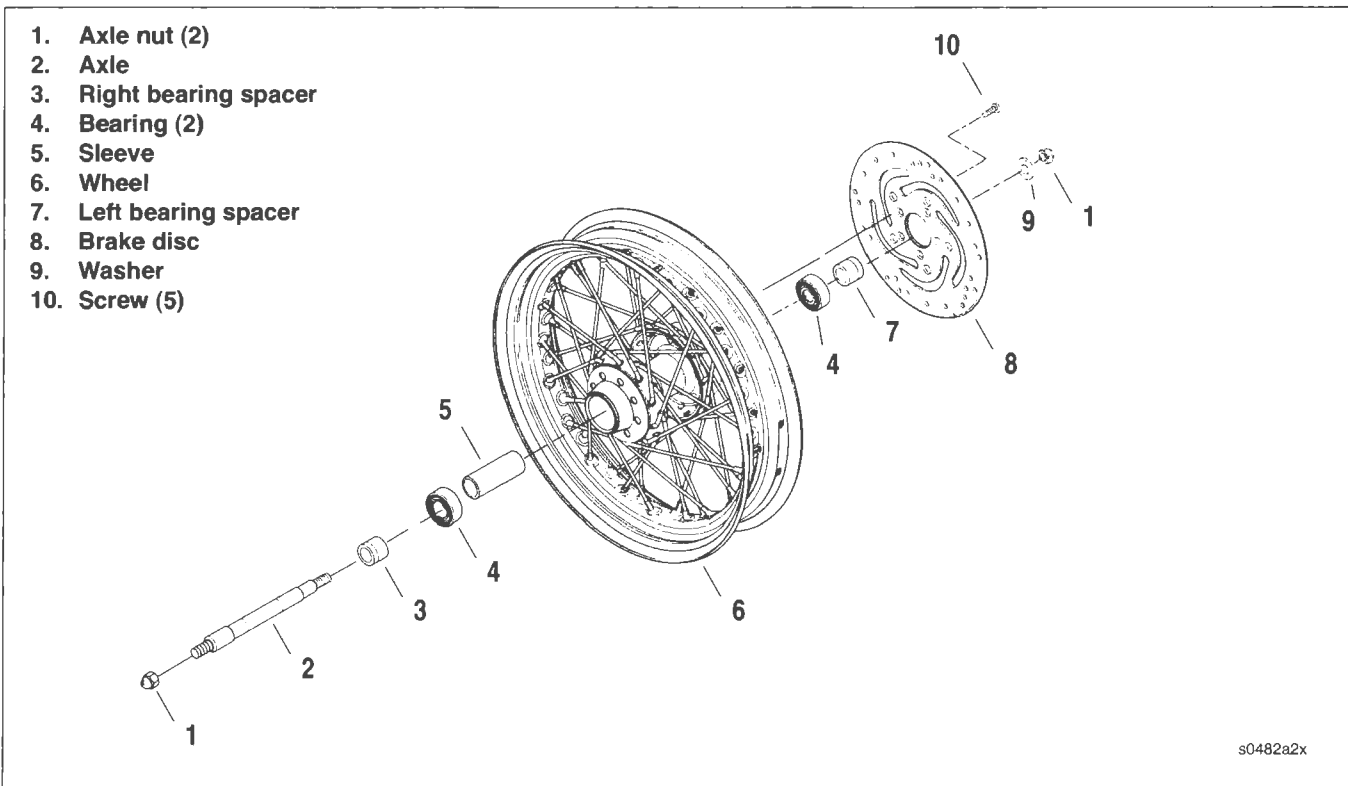

Figure 2-9. Front Wheel FXSTD
1. See Figure 2-9. Remove spacers (3, 7) from left and right sides.
2. If necessary, remove brake disc (8). On left side of wheel, remove five screws (11) to detach brake disc. Discard screws.
3. See Figure 2-9. If necessary, install brake disc (8). Verify that brake disc is clean. On left side of wheel, install five **new** screws (10) to attach brake disc. Tighten fasteners to 16-24 ft-lbs (21.7-32.5 Nm).